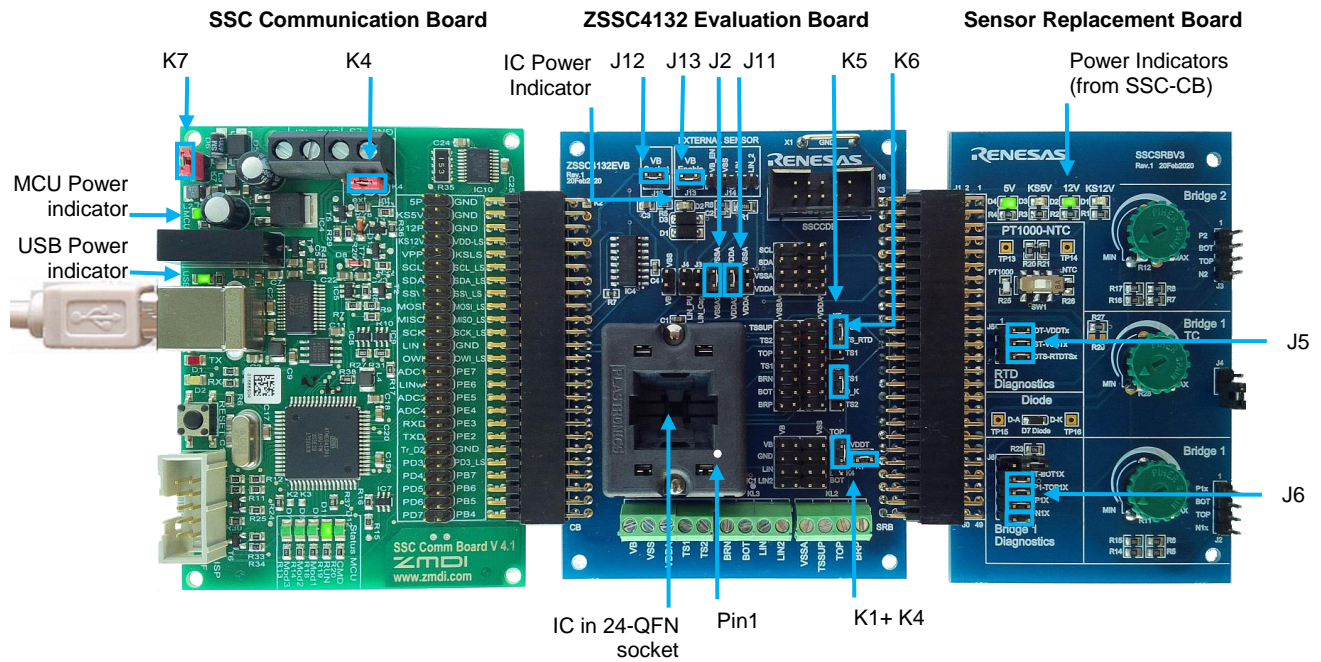

Figure 3. Default Evaluation Kit Connections
The Evaluation Kit hardware consists of the following three boards as shown in Figure 3 and includes samples of the ZSSC4132 (24-QFN):
- ZSSC4132 Evaluation Board – This board contains a 24-QFN socket for the ZSSC4132 single IC, access points for connection to instrumentation, and an external sensor circuitry/module. See Figure 3 for the location of pin 1 for proper IC orientation. Install jumpers initially as shown in Figure 3. This board also offers a connector to a Sensor Replacement Board.
Note: There is a “dummy” IC in the socket on the SSC Board ZSSC4132 that has to be replaced with an actual ZSSC4132 device under test (DUT). See Figure 3 for the location of pin 1 for proper IC orientation.
Follow these procedures to set up the kit as shown in Figure 3:
1. Connect the SSC Communication Board, the ZSSC4132 Evaluation Board, and the SSC Sensor Replacement Board via board-to-board connectors as shown in Figure 3
2. Insert IC into the 24-QFN socket; see Figure 3 for the location of pin 1 for proper IC orientation.
Follow these procedures to connect the lab equipment and the user's computer to the kit as shown in Figure 3:
1. Depending on the use case, connect the boards, external sense element and/or sensors as shown in section 1.3. For a first IC evaluation, use default setup as shown in Figure 3.
In the default setup, the evaluation kit is powered by the USB port of the PC (see Figure 3).